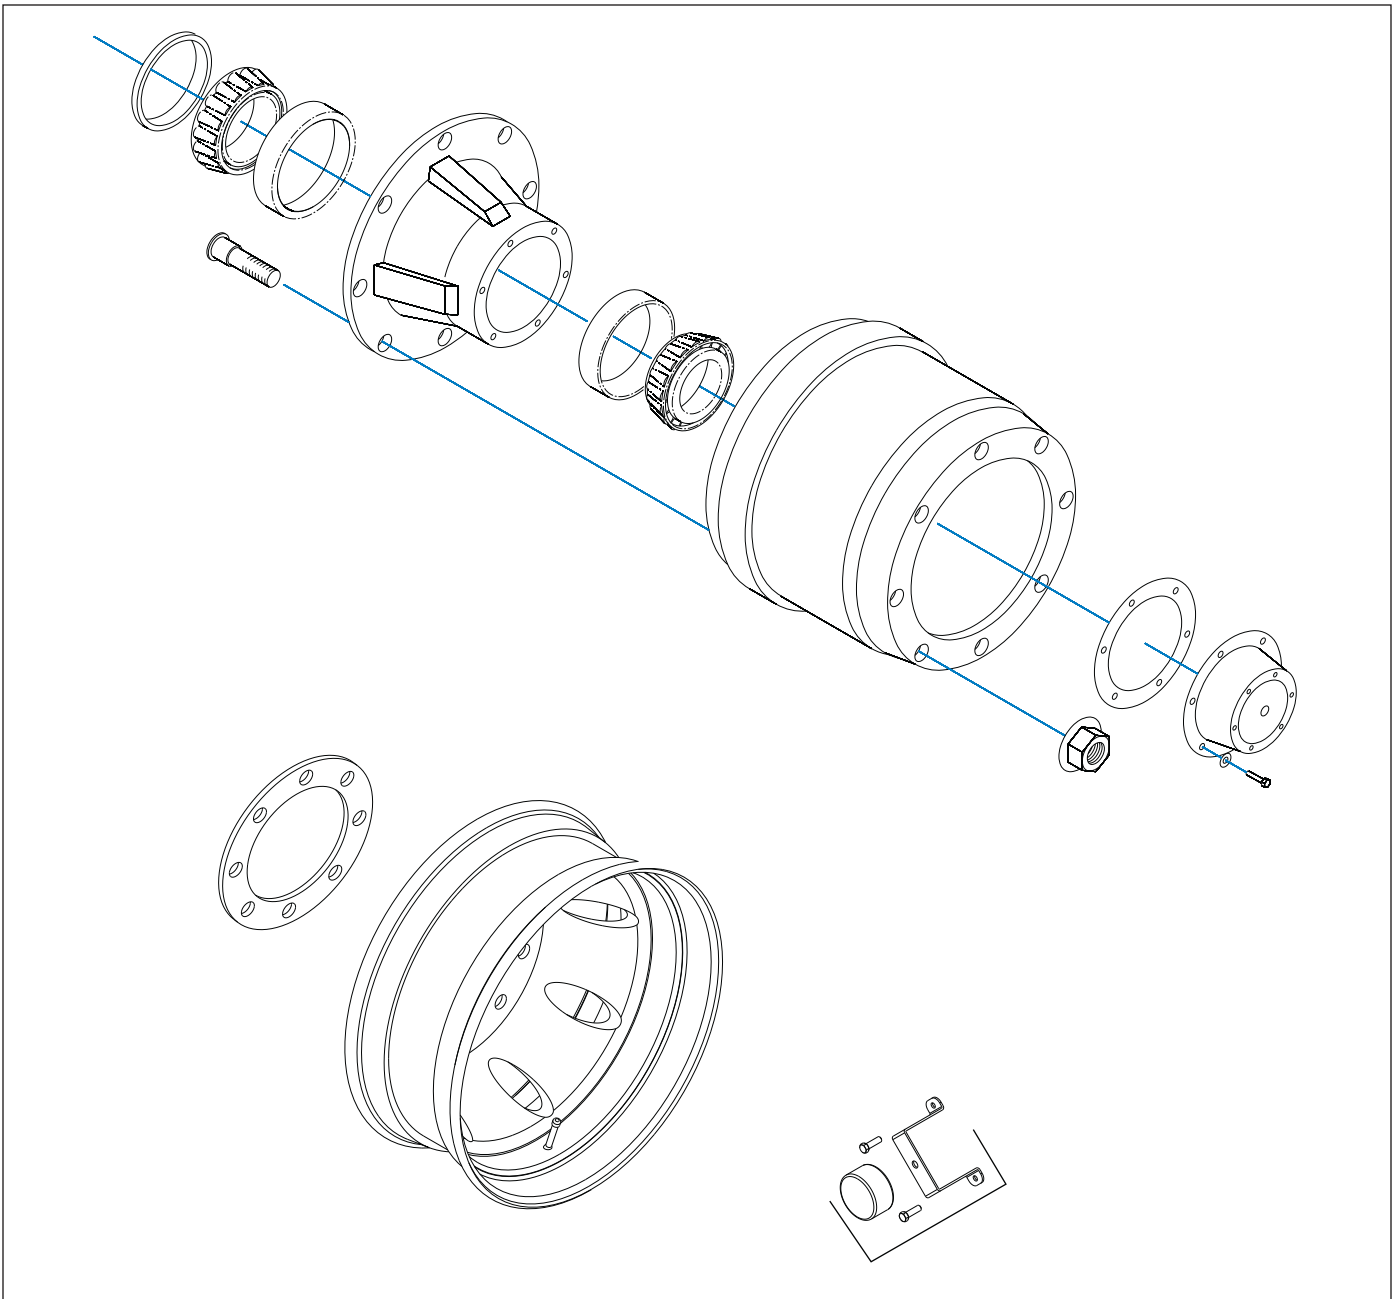

Figure 4-20: Outboard Mount Hub and Drum
4. Replace the hub and drum as follows: (*See Figure 4-20*)
- i. Place the drum over the hub and brake shoes being careful not to damage the threads on the studs (*See Figure 4-20.*) Make sure the drum seats flat against the hub flange and mates properly with the hub pilot. There should be no interference between the brake drum pilot chamfer and the corner radius on the hub. If interference exists, the hub will not be able to function properly.
- k. If studs are marked “R” or “L”, right hand ® hubs should be installed on the curbside of the vehicle, left hand (L) hubs should be installed on the driver side.